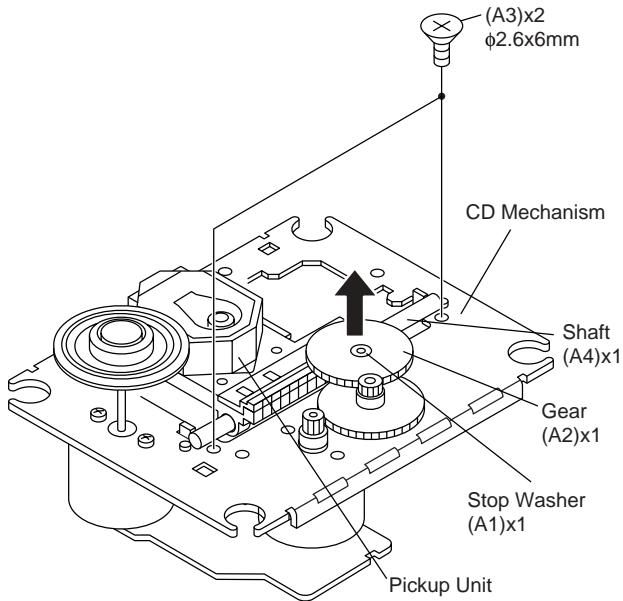

Figure 1
2.1. Remove the pickup. (See Fig. 1)
1. When CD is at play position, Rotate reduction gear C clock-wise as shown in Figure 1 Until disc tray is at stalk position, then rotate further to eject the disc tray so that CD can be removed from the tray.